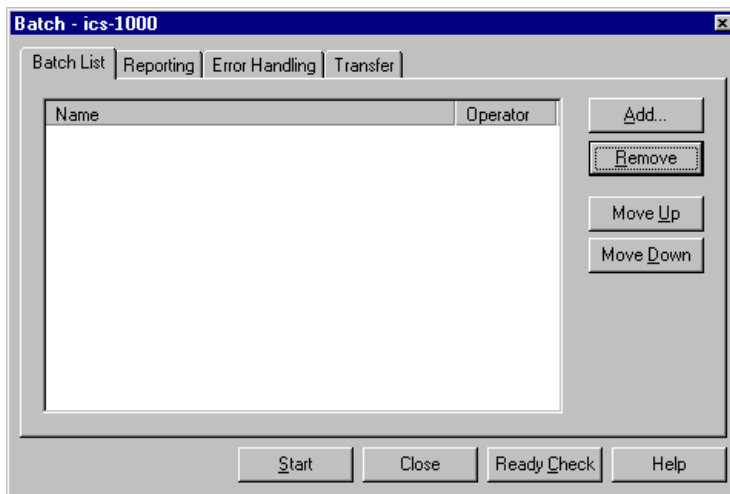

Figure 3-10. Batch Dialog Box
3. To start the sample processing, make sure the System Control Panel is open (see Section 3.3) and is the active window. Then, select **Edit** from the **Batch** menu. The Batch dialog box opens (see Figure 3-10).